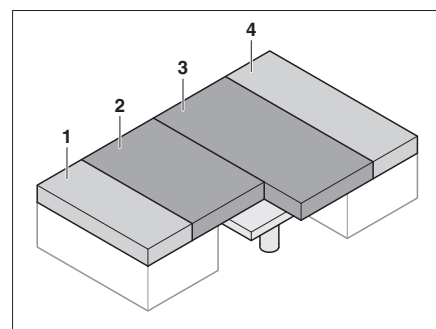

Fig. 75 After conversion
- Pull the seat cushions (Fig. 75,2 and 3) into the centre.
- Insert the back cushions (Fig. 75,1 and 4) between the seat cushions (Fig. 75,2 and 3) and the exterior wall.